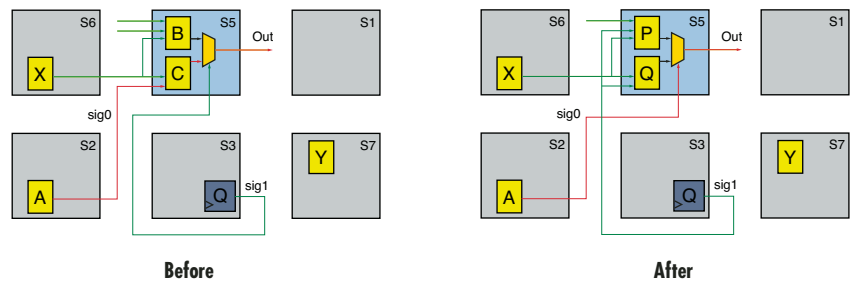

Figure 3 – Basic Element Switching.
- **Basic Element Switching:** If a function is built with LUTs and muxes within a slice, physical synthesis and optimization can rearrange the function to give the fastest path (usually through the mux select pin) to the most critical signal (Figure 3)